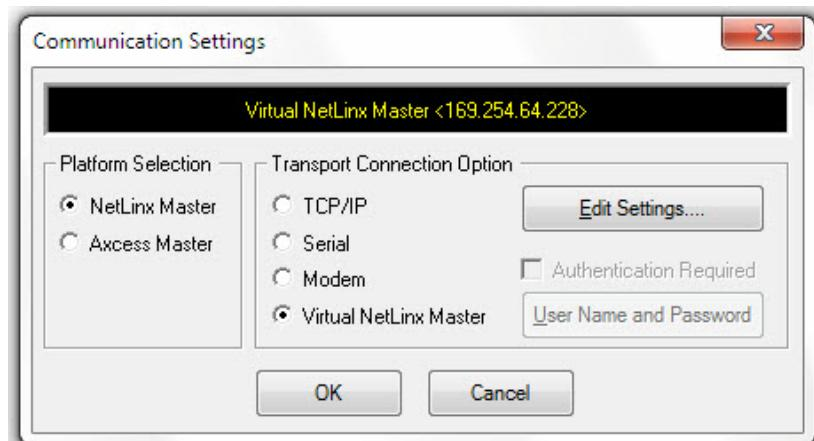

FIG. 72 Communications Settings dialog box
- Click the **Communications Settings...** button to open the *Communications Settings* dialog box (FIG. 72).